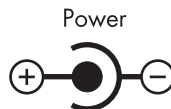

Figure 3. Power connection barrel receptacle diagram
- The supplies connection to the CopperLink-T T1/E1 Extender is a 2.5 mm barrel receptacle with the center conductor positive (see Figure 3).